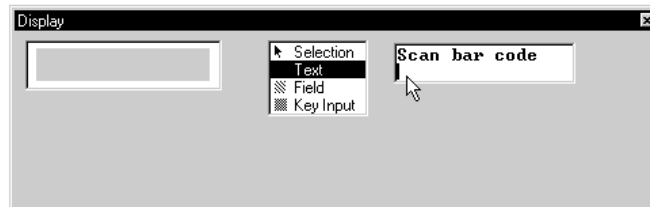

Figure 4-65 Display Window - First Line of Text Entered
38. Type **Scan bar code** on the top line. DO NOT PRESS <ENTER> YET. Use your mouse to click at the beginning of the second line (Figure 4-65) or use the arrow keys on your computer’s keyboard to move the cursor to the beginning of the second line. Note: The <Enter> key does not produce a line return in the **Display** window; it is only used to accept the text entry.